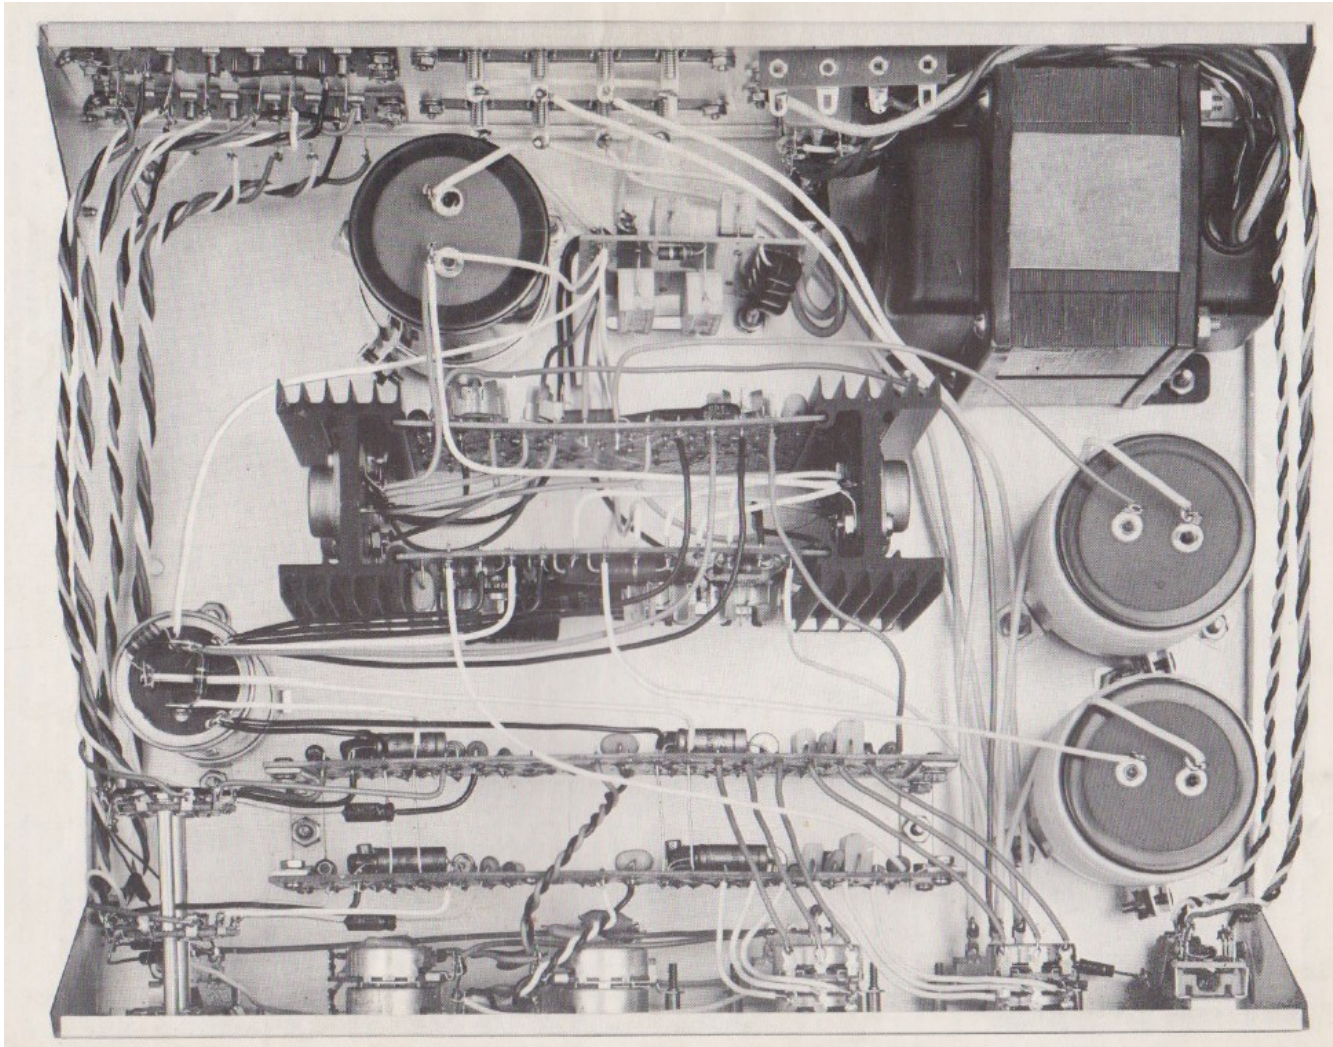

Figure 5-SCA80 Wiring
4. If you need a reminder about where something goes, please refer to Figure 5.